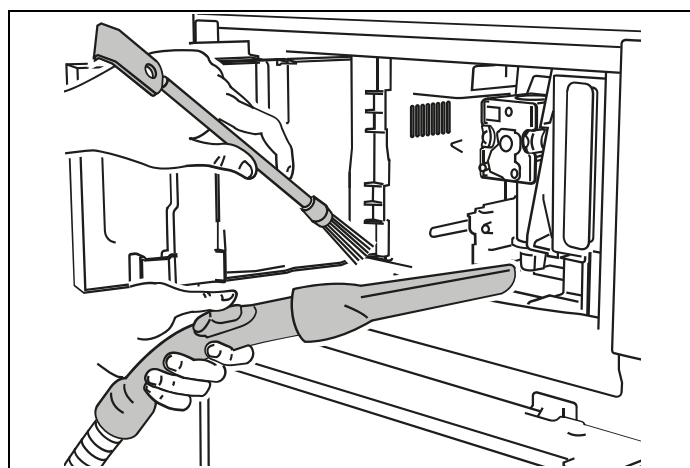

Fig. 45
- If necessary, remove coffee deposits with the brush (**C5**) supplied and a sponge. Remove all the residues with a vacuum cleaner (Fig. 45).